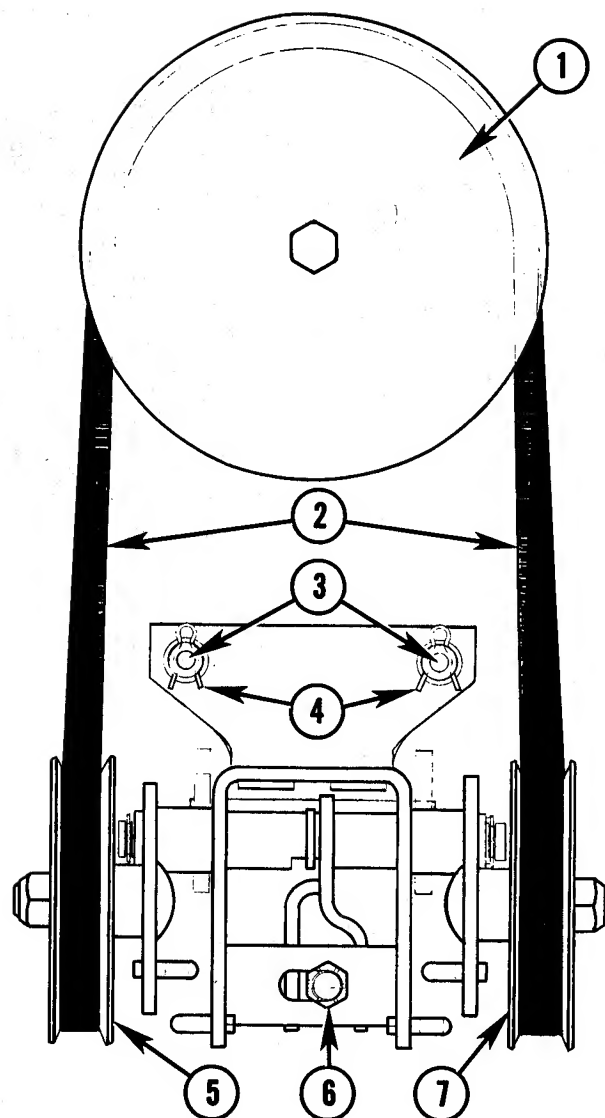

Fig. 39 — Mower Installation
7. Remove mule drive unit by removing two pins, No. 4, Fig. 39.
11. Raise spring-loaded right pulley, No. 5, Fig. 39, and install belt, No. 1, around pulley.
2. With mower in lowered position, turn adjusting bolt, No. 6, Fig. 39, clockwise to adjust belt tension. When belt, No. 2, is properly tensioned, pulleys, Nos. 5 and 7, should be approximately same height from ground.
3. Pry up right pulley, No. 5, Fig. 39, and remove belt, No. 2, from pulley.